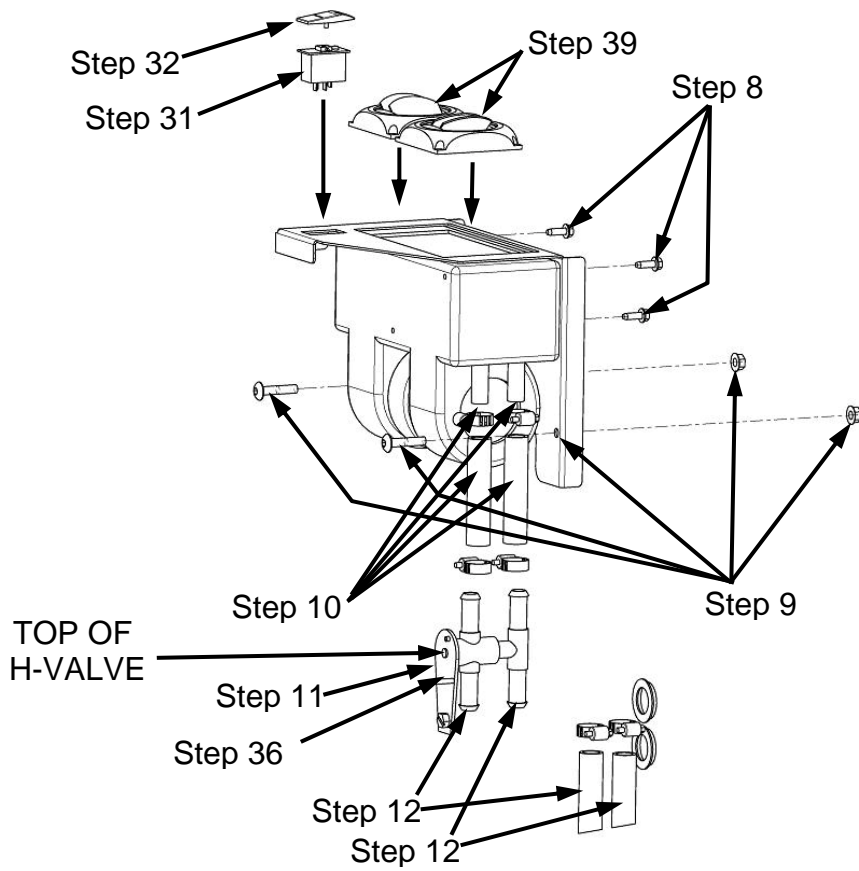

Figure 2
8. Secure heater unit 3-18067 to mount bracket 1-46500 using (3) ¼" x ¾" long self-tapping screws. See Figure 2.
9. Secure heater unit with mount bracket to front lower cab panel using (2) 5/16" x 1.50" long button head bolts and (2) 5/16" flange nuts. See figure 2 & 3.
10. **Important! Remove and discard heater nipple cap plugs if present.** Connect (2) 5/8" x 4.00" long heater hoses onto heater nipples. Secure using (2) No.10 hose clamps. See Figure 2.
11. Orientate H-valve as shown in figures 2 & 3 and connect to the (2) 5/8" x 4.00" long hoses. Secure using (2) No.10 hose clamps.
12. Install (2) 5/8" x 18.00" long heater hoses to H-valve and secure using (2) No.10 hose clamps. See Figure 2.
36. Activate the H-valve by rotating the lever from side to side, several times. See figure 2.
38. Install the (2) louvers into heater unit as shown in figure 2.